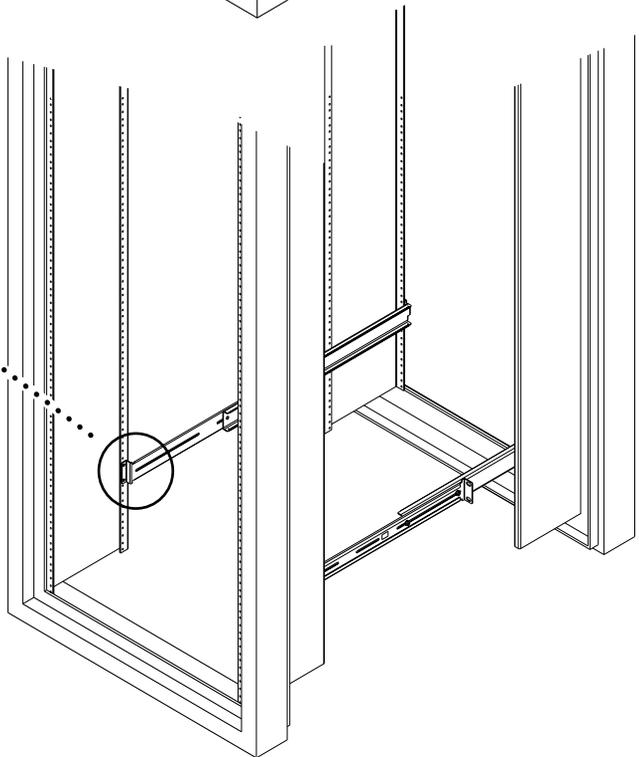

FIGURE 3-6 Fastening the Brackets in Sun StorEdge 72-inch Expansion Rack or Cabinet – Front and Back View (Side Panels Removed for Clarity)
- For a Sun StorEdge 72-inch expansion cabinet or Sun Fire expansion cabinet, measure from the front post to the third post from the front of the rack (FIGURE 3-6).
- c. **For a Sun StorEdge 72-inch expansion cabinet or Sun Fire expansion cabinet, perform the following steps to insert the back screws (FIGURE 3-6).**